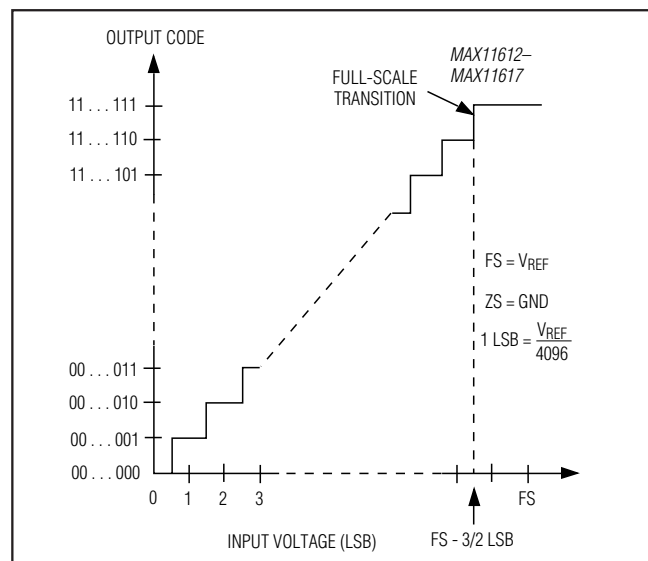

Figure 12. Unipolar Transfer Function
Output data coding for the MAX11612–MAX11617 is binary in unipolar mode and two's complement in bipolar mode with 1 LSB =  $(V_{REF}/2N)$  where N is the number of bits (12). Code transitions occur halfway between successive-integer LSB values. Figures 12 and 13 show the input/output (I/O) transfer functions for unipolar and bipolar operations, respectively.